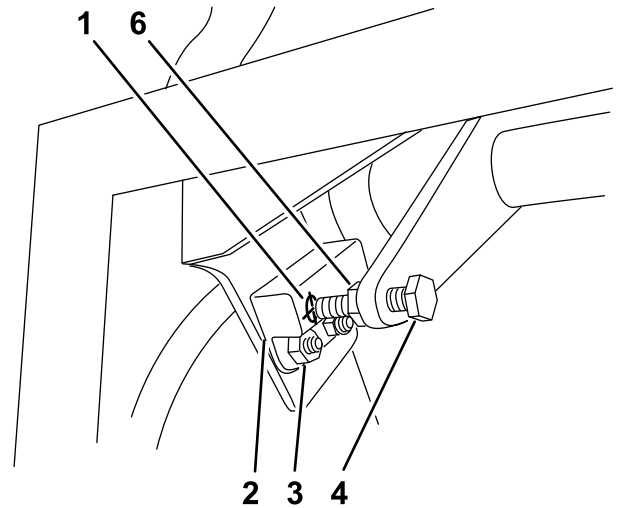

Figure 56
1. Ensure that the bolt attached to the motion-control lever aligns with the proximity-switch target (Figure 56).
2. If needed, loosen the bolts and adjust the proximity switch until the target aligns with the bolt attached to the motion-control lever (Figure 56).
3. Check the distance of the bolt to the proximity switch; it needs to be between 0.51 to 1.02 mm (0.02 to 0.04 inches) as shown in Figure 56.
5. Tighten the jam nut after adjusting the bolt (Figure 56).